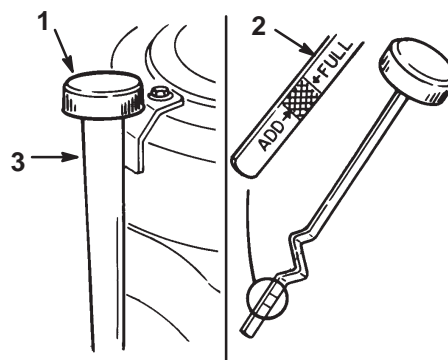

Figure 20
3. Clean around the oil dipstick (Fig. 20) so dirt cannot fall into the filler hole and damage the engine.
4. Unscrew the oil dipstick and wipe the metal end clean (Fig. 20).
5. Slide the oil dipstick fully into the filler tube, do not thread onto tube (Fig. 20). Pull the dipstick out and look at the metal end. If oil level is low, slowly pour only enough oil into the filler tube to raise the level to the “FULL” mark.
7. Slowly pour approximately 80% of the specified amount of oil into the filler tube (Fig. 20). Now check the oil level; refer to Checking Oil Level, page 23. Slowly add additional oil to bring to "FULL" mark on dipstick.